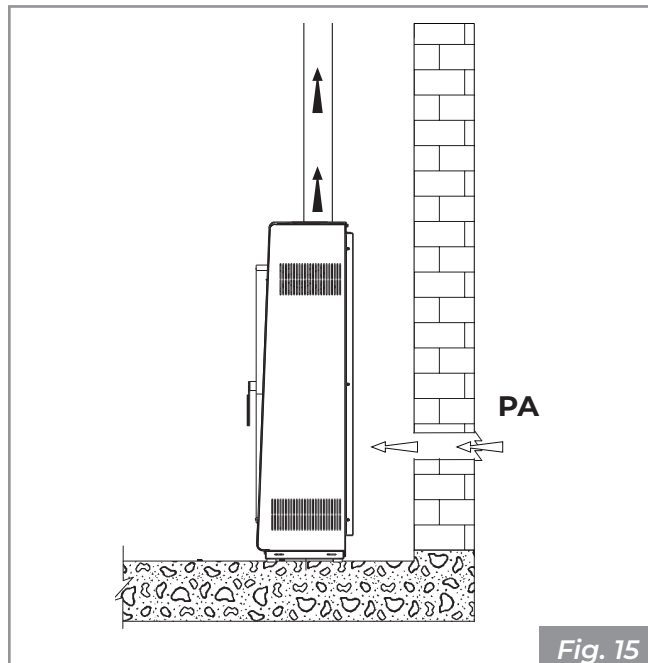

Fig. 15
- coming from the installation environment or from suitable adjacent rooms (Fig. 15)
Create the air intake on the wall (**Fig. 15 - PA = Air Intake**), and leave the appliance free to bring air into the room.